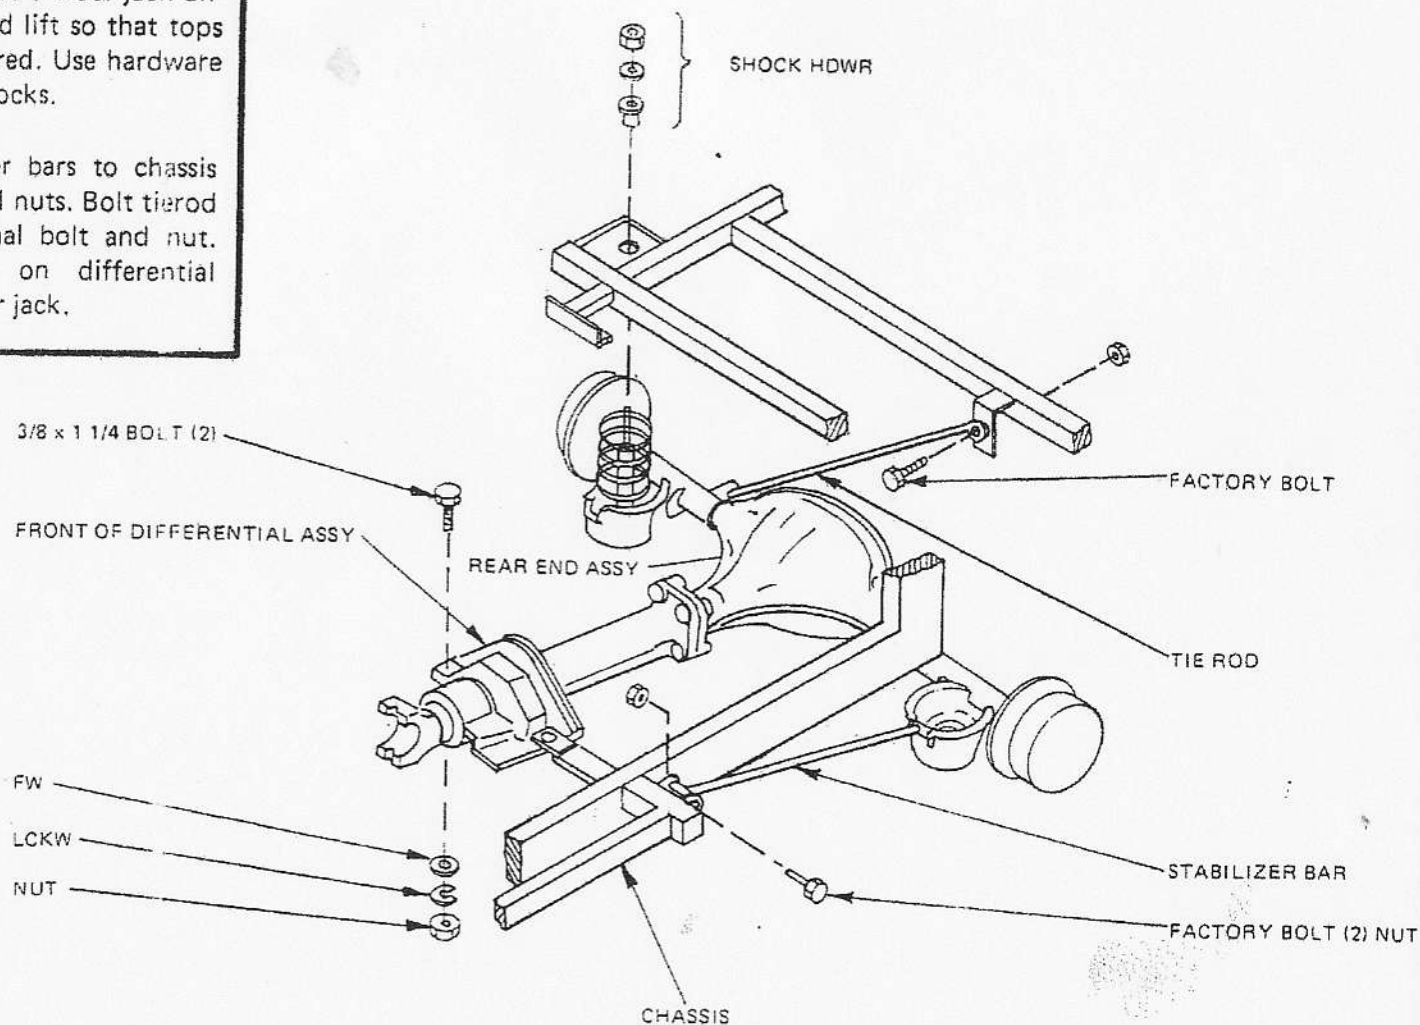

Figure 14
- ☑ Roll assembly under chassis and bolt front of differential extension onto chassis (Figure 14) using $3/8 \times 1\ 1/4$ " bolts with flat washers, lock washers and nut. Hand tighten. Place a floor jack under the differential and lift so that tops of shocks can be secured. Use hardware supplied with the shocks.